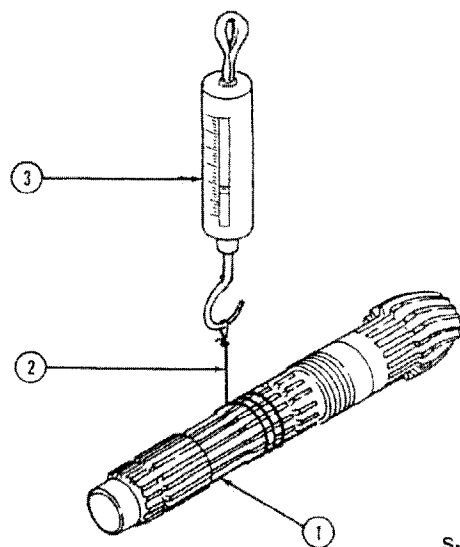

Figure 21
6. Adjust the pinion bearing preload using a strong cord wrapped around the pinion shaft and a pull scale, Figure 21. Tighten the pinion nut to obtain the specified pounds of constant pull to rotate the pinion assembly.